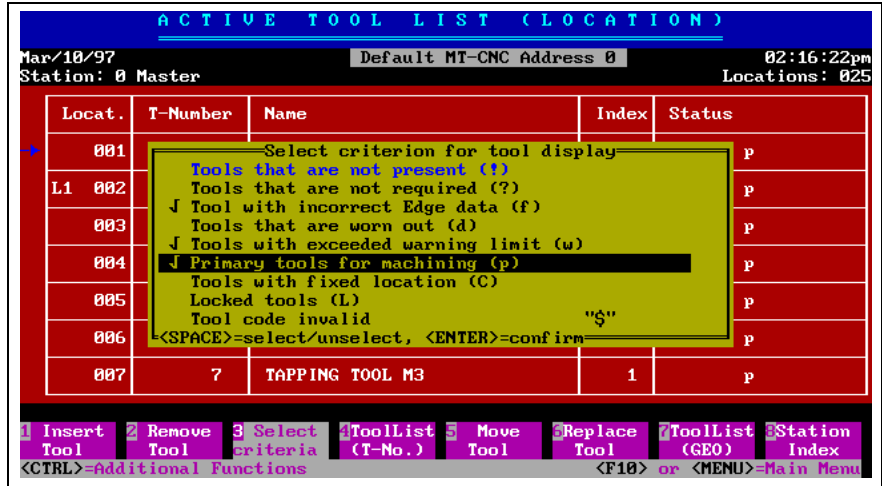

Fig. 4-12: Selecting Display Criteria
Fig. 4-12 shows an example of tools where at least status bits 'Tool with incorrect edge data (symbol 't', or 'e', or 'f' or a combination), exceeded warning limit (symbol 'w') and 'Primary tool for machining (symbol 'p') are set (status 1).
- 3) The following tools appear in the active tool list according to the criteria selected in Fig. 4-12.